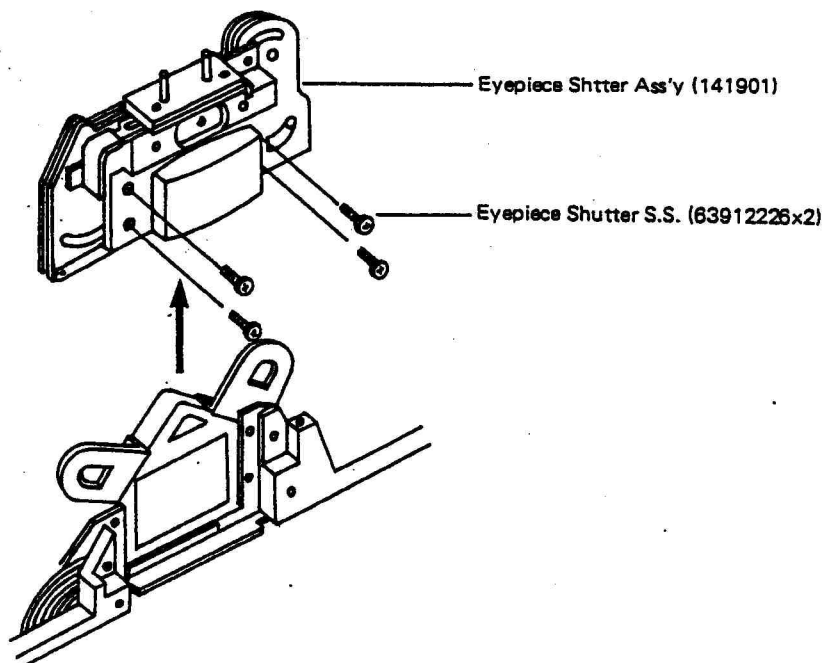

Fig. 62
h) Remove the Eyepiece Shutter S.S. (63912226 x 4) and Eyepiece Shutter Ass'y (141901) shown in (fig. 62).